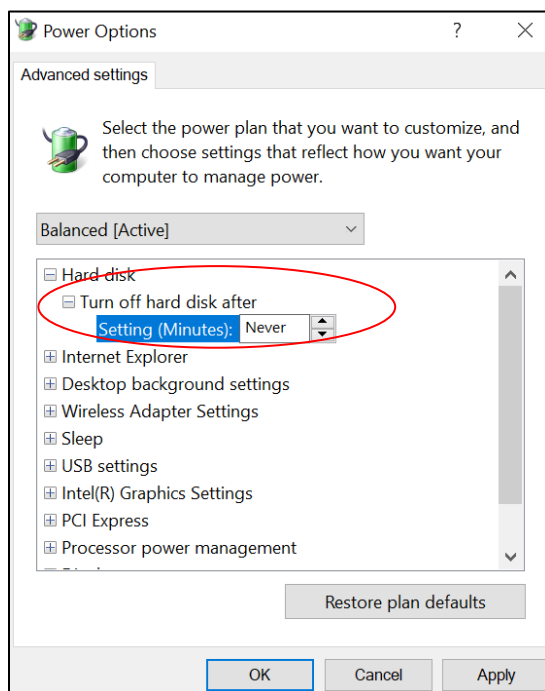

Figure 14: Turn Off Hard Disk Setting to Never
- Click the plus sign next to **Hard Disk** to access the dropdowns. Under **Turn off hard disk after**, change the **Setting (Minutes)** to **Never**. Reach **Never** by pressing the down arrow key until the box reads one (1), and then press the down arrow key one more time so it displays **Never**. Refer to Figure 14.